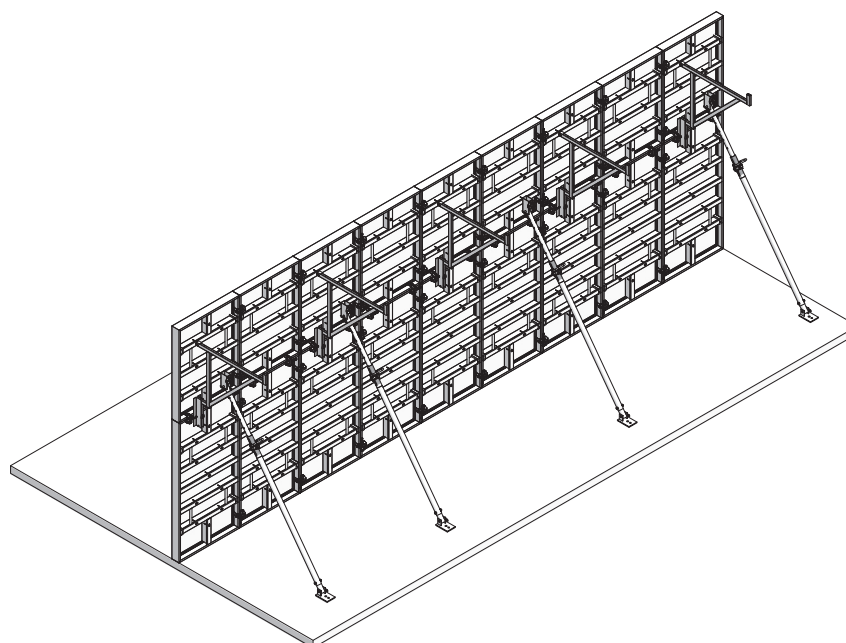

Fig. 51.2
3. Install the walkway brackets (Fig. 51.2).